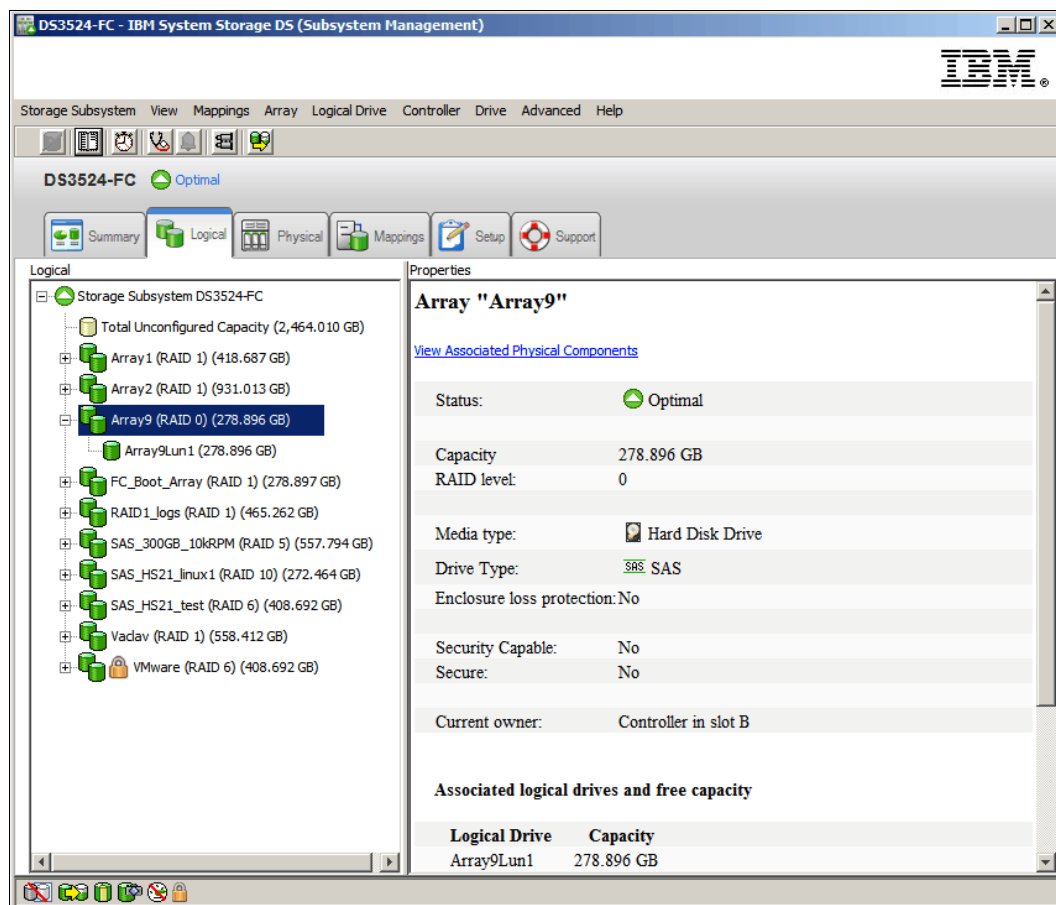

Figure 14-114 Imported array
- The status of the newly imported array is reported as Optimal in the Storage Manager logical tab as shown in Figure 14-114.